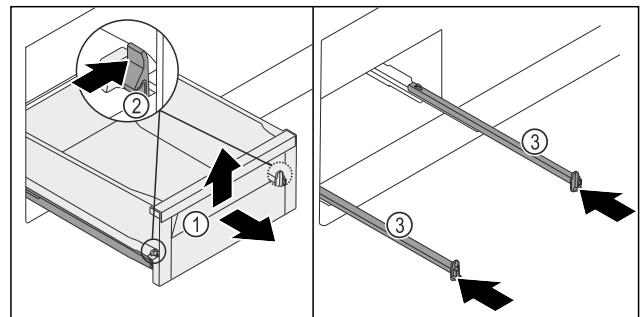

Fig. 135
- ▶ Pull the drawer Fig. 135 (1) out as far as it will go.
- ▶ Press the left and right clamp Fig. 135 (2) inwards at the same time.
- ▶ Drawer Fig. 135 (1) detaches from the rails.
- ▶ Lift up the drawer Fig. 135 (1) forwards.
- ▶ Remove the drawer Fig. 135 (1) forwards.
- ▶ Push in the rails Fig. 135 (3).